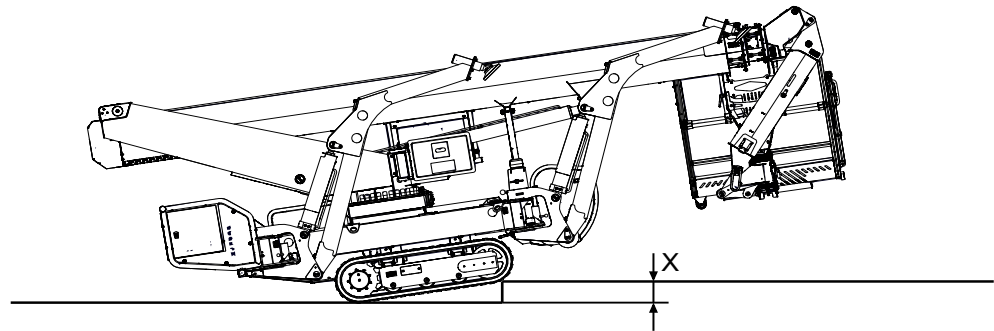

Fig. 106
3. Make sure that the height of the ridge (Fig.106/X) you wish to drive over does not exceed 100 mm.
- Observe the machine's maximum tilt angle (Fig.106).